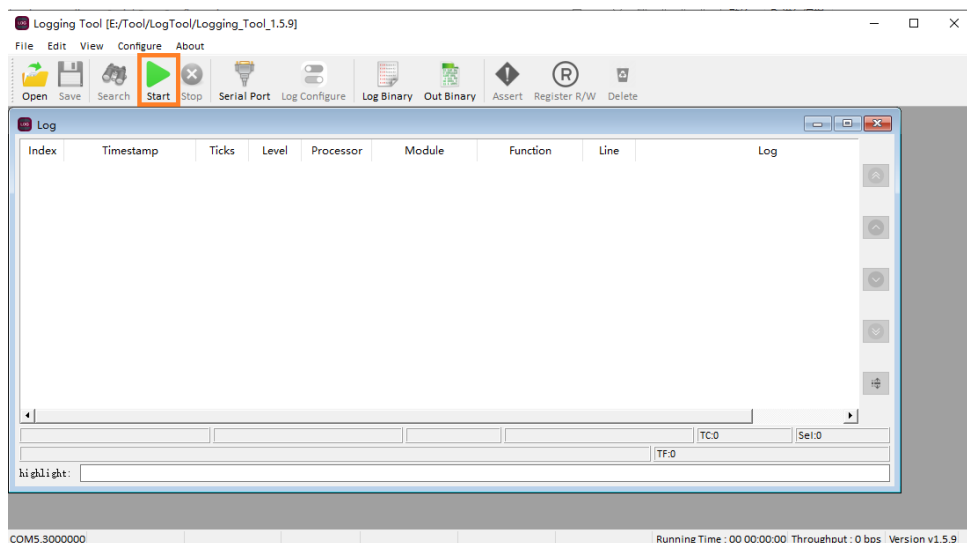

Figure 26. Start button
- 5) Click the **Start** button as shown in Figure 26.